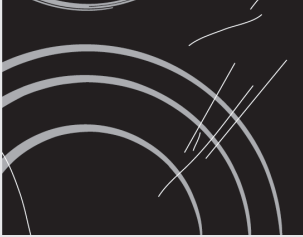

Figure 1
**For regular cleaning and maintenance of the glass-ceramic surface, use special conditioning agents** which form a protective layer on the surface, shielding it from dirt. Before each use, wipe any dust or other particles from the hob surface and pan bottom as these could scratch the surface (Figure 1).
**Careful:** steel wool, abrasive sponges, and abrasive detergents can scratch the hob surface. Glass ceramic surface can also be damaged by aggressive sprays and inappropriate or insufficiently shaken (mixed) liquid cleaning agents (Figure 1 and Figure 2).